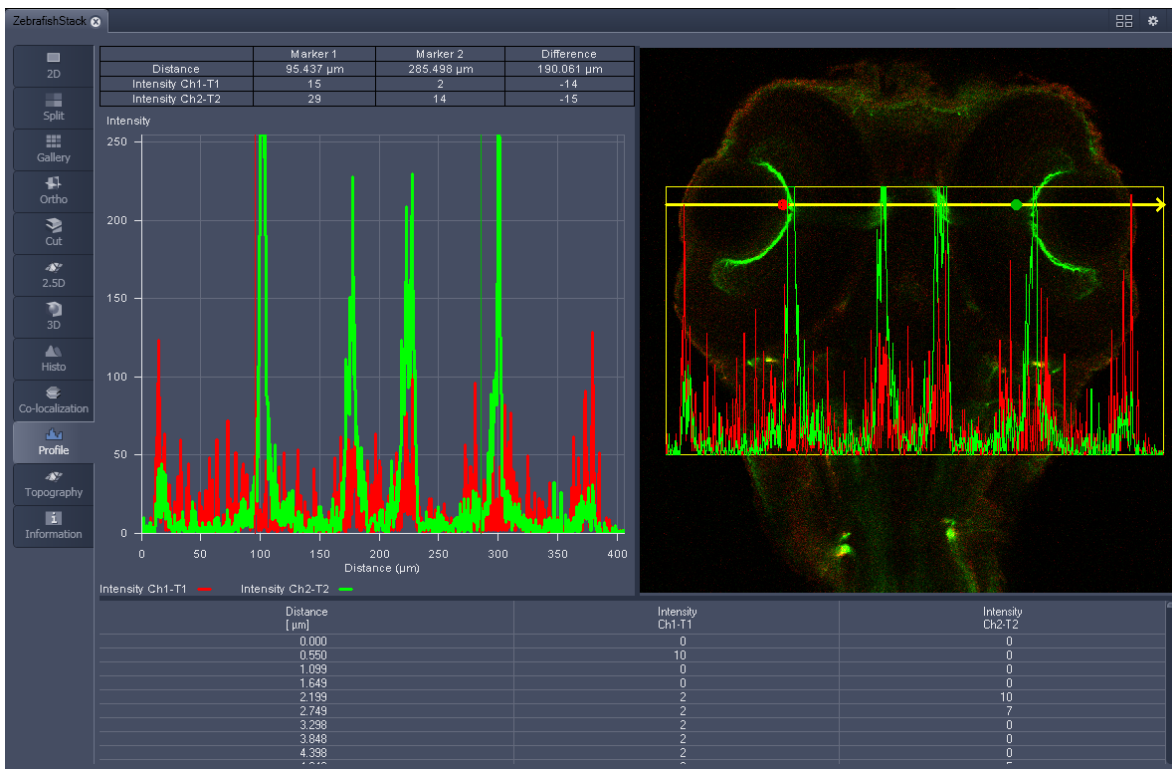

Fig. 550 Image Display - Profile View, Profile displayed in Image
- Tick the **Profile in Image Display** block to see an intensity graph superimposed on the image (see Fig. 550).